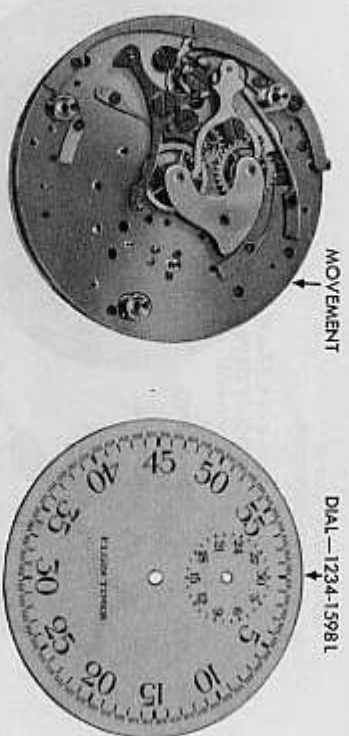

Figure 192 — Elgin Stop Watch — Dial Removed
- d. Remove Dial (fig. 192). Loosen dial foot screws, which are located in pillars above pillar plate. Lift off dial. Tighten screws to avoid losing them.
i. **Replace Dial.** Loosen dial foot screws and replace dial. Lock dial in position by tightening dial foot screws (fig. 192).